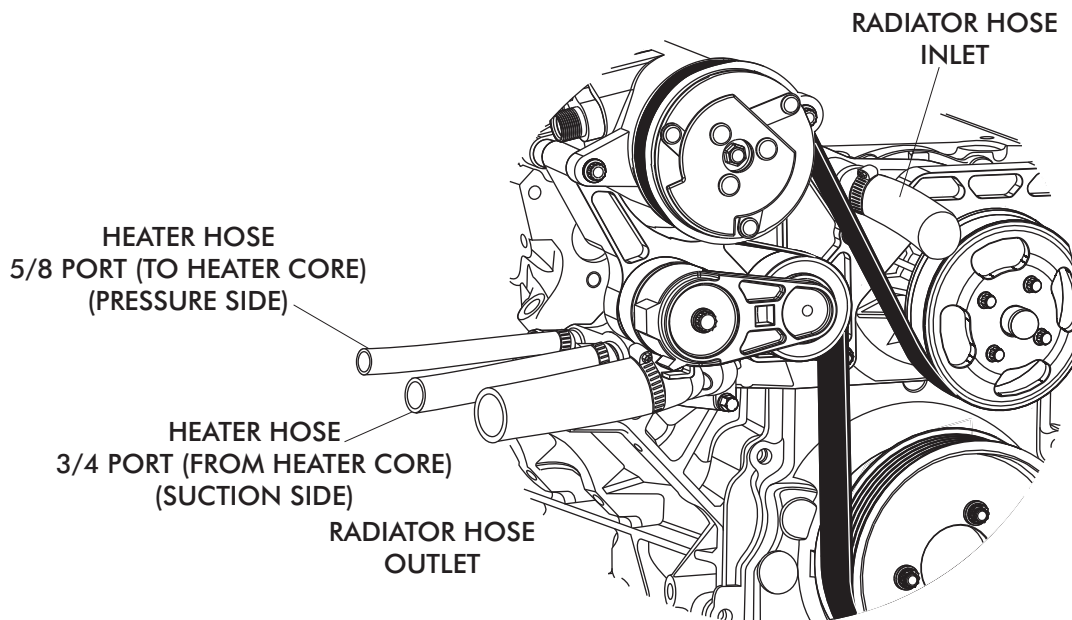

FIGURE 14
- INSTALL THE (2) HEATER HOSES ON TO THE WATER PUMP, NOTE HOSE CLAMP LOCATION AND POSITION AS SHOWN IN FIGURE 14 BELOW.
- INSTALL THE (2) RADIATOR HOSES ON THE WATER PUMP, NOTE HOSE CLAMP LOCATION AND POSITION AS SHOWN IN FIGURE 14 BELOW.